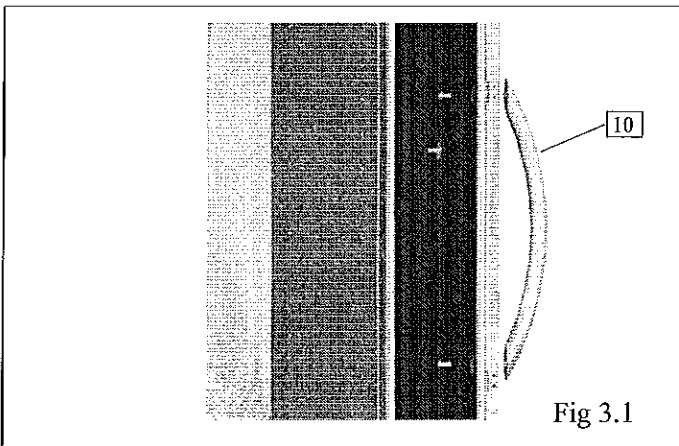

Fig 3.1
Procedure: Attach the long Door Handle to the outside of the Smoker Door using (2) M6 x 8 bolts. Fig 3.1